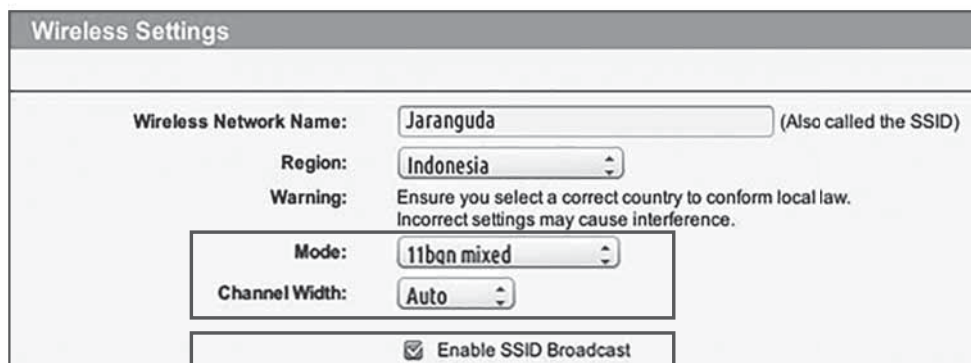

Fig. 1
2. Make sure your router 802.11 mode of wireless setting is b/g/n mixed. (See Fig. 1)
4. Make sure your router Enable the SSID Broadcast function when you connect the machine with the APP. And you can close it after you connect successfully. (See Fig. 1)